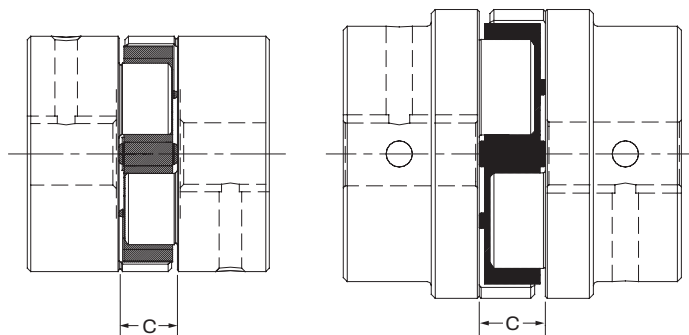

Figure 3 - Proper Alignment
3. Position the hubs on the shafts to approximately achieve the "C" dimension shown in Table 2, refer to Figure 3. It is usually best to have an equal length of shaft extending into each hub as long as a minimum of 80% shaft engagement is maintained on both hubs. Tighten one hub in its final position using the set screw tightening torque given in Table 1.